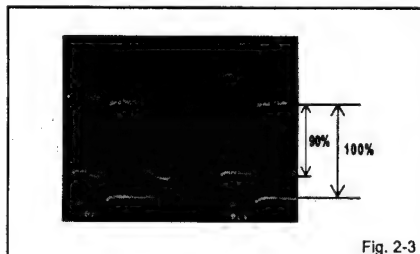

Fig. 2-3
6. Press the VOL. UP/DOWN button on the remote control until the red color level is adjusted to $90 \pm 5\%$ of the white level. (Refer to Fig. 2-3)